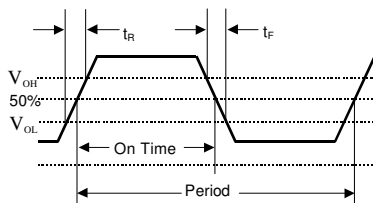
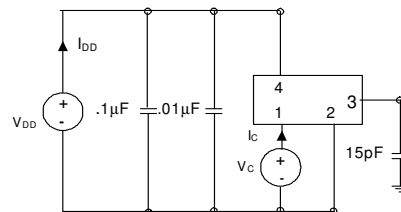

Figure 7: Output Waveform
Figure 8: Typical Output Test Conditions (25±5°C)
2. Parameter is defined in Figure 7 and tested as shown in Figure 8.
4. Symmetry is defined as On Time/Period (Figure 7).